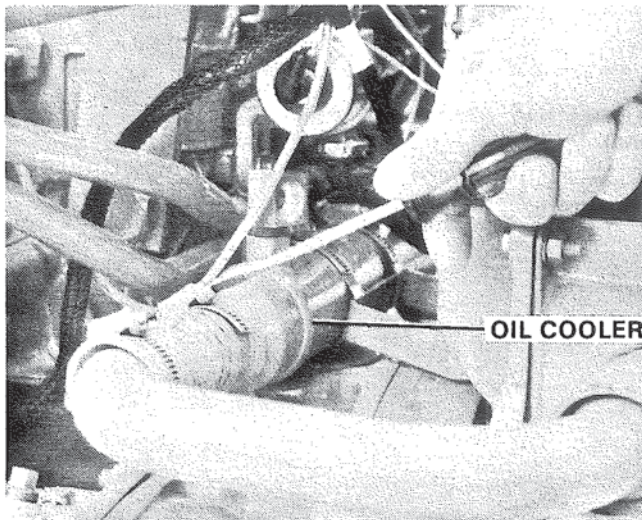

Figure 28. Cleaning Reverse Gear Oil Cooler.
1. Remove hoses from both ends and inspect for debris. Figure 28.